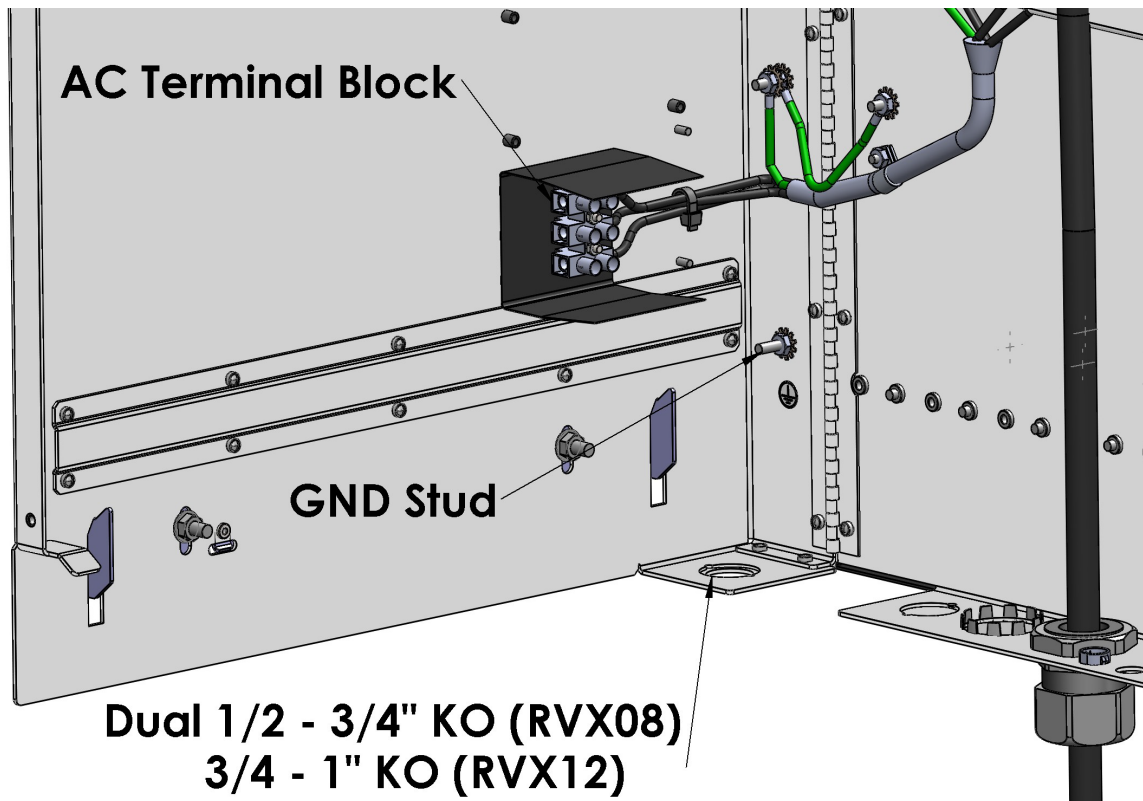

Figure 27: RVX08, RVX12 KO location
5. Crimp a #10 ring tongue terminal to the ground (GND) wire and connect it to the GND stud (Figure 27). **Tighten the nut to 15 in-lb +/- 2 in-lb.**